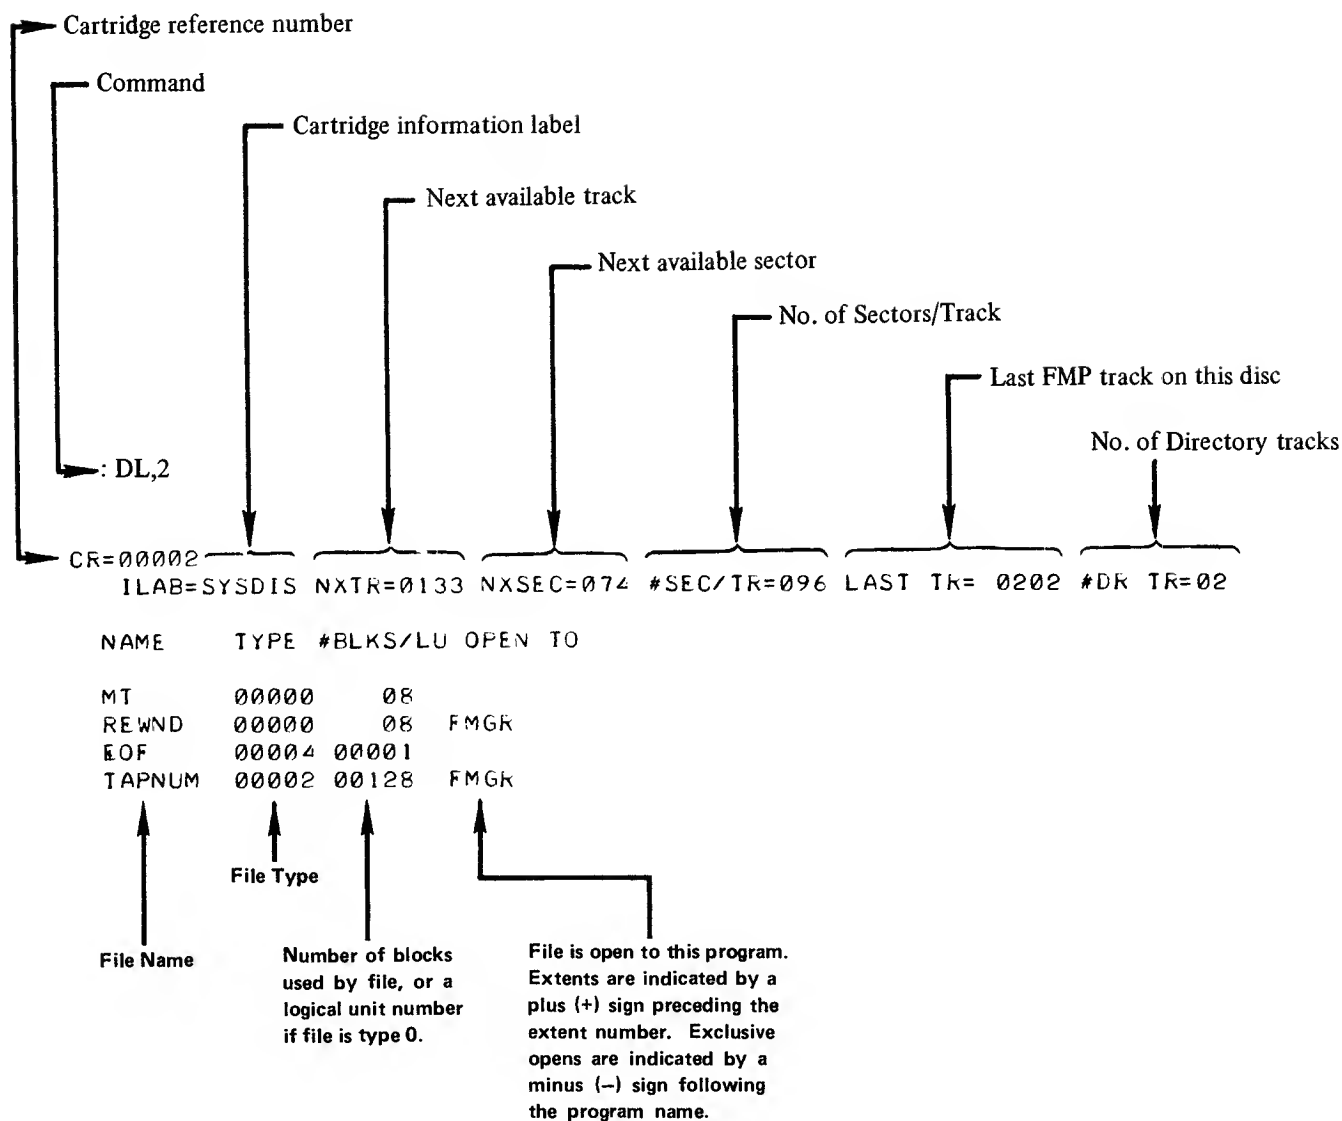

Figure 3-1. Short List
- The *label* parameter indicates which cartridge file directory is to be examined. If *label* is not present, or it is a 0, all mounted cartridge directories will be listed. There are two list formats. Figure 3-1 shows the format when the master security code is not provided.
- Figure 3-2 shows the format when the master security code is provided. In addition to the information described in Figure 3-1, the file security code plus track and sector addresses are provided.
id	is the cartridge information label (ILAB - refer to Figure 3-1/3-2), and must have the characteristics of a legal file name. Refer to text under the heading NAMR for a description of a legal file name. id is printed in the head of the directory listing.